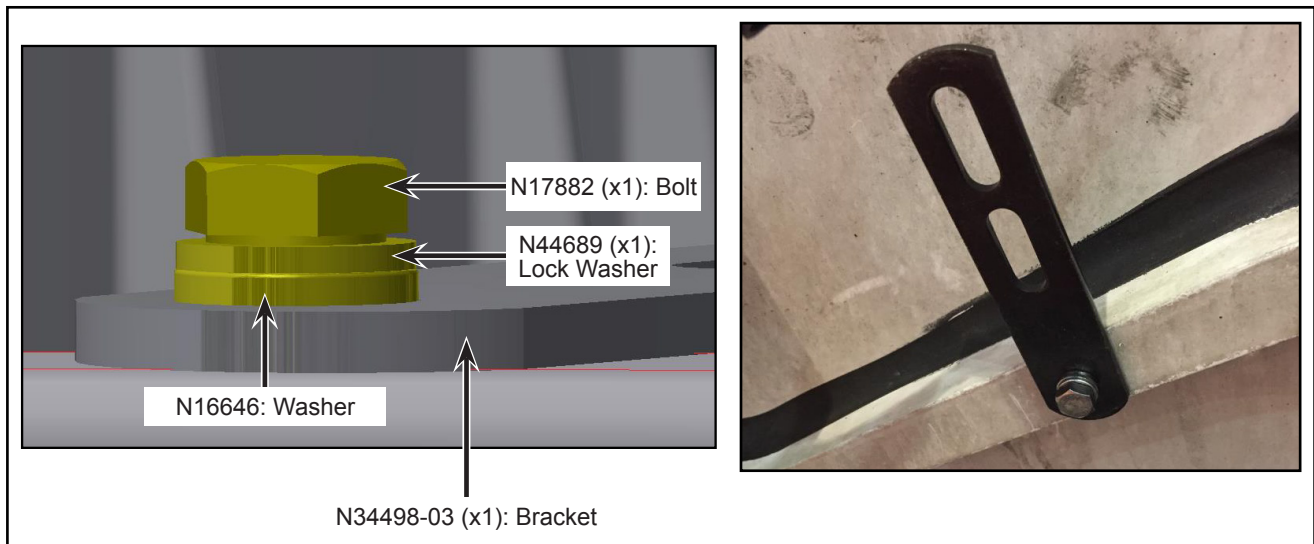

Figure 7 - Typical View of Fan Bracket Installation
1.14. Install a bracket N34498-03 with hardware (see Figure 7). Tool: 10mm socket.